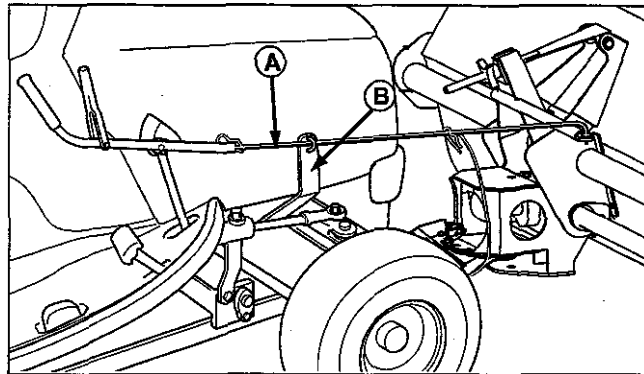

figure 29
6. See figure 29. Separate the angling rod (A) and remove it from the support arm (B) and sweeper.
**NOTE** -The support arm (B, figure 29) can remain attached to the tractor.